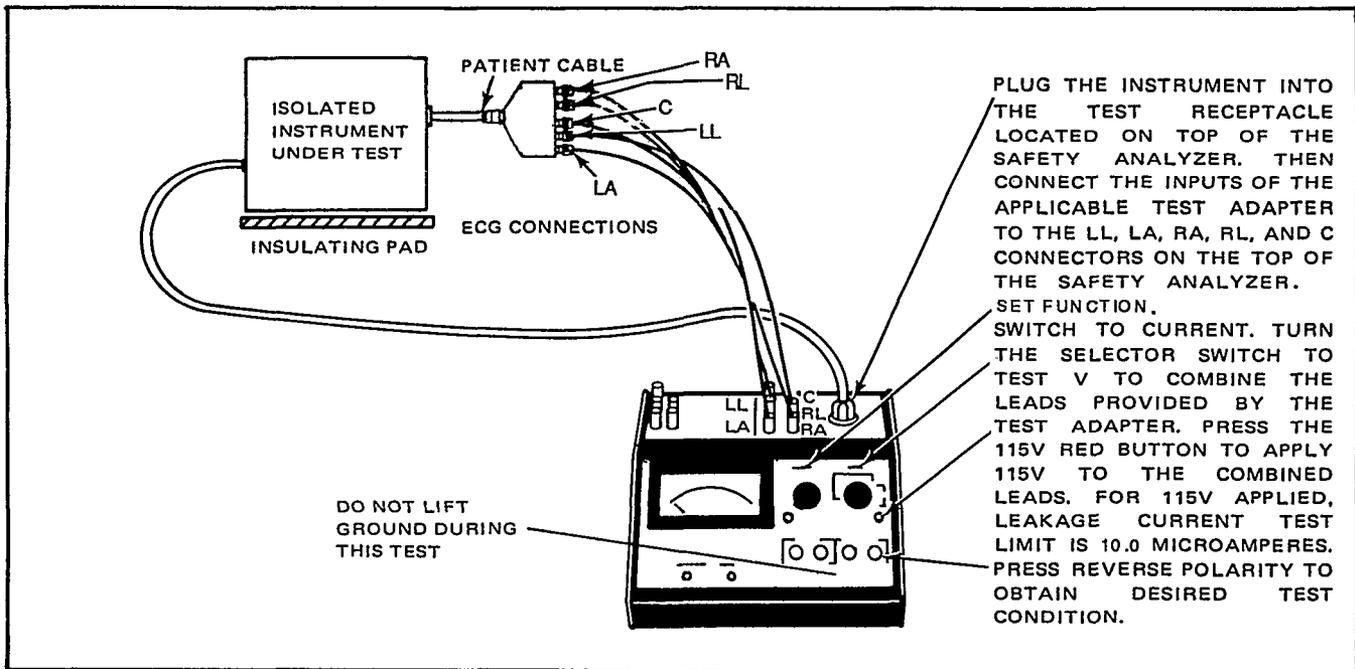

Figure 3-5. Patient Lead Leakage Current (Sink Current) with 115V Applied Test Setup.
1. Connect the test equipment as shown in Figure 3-5.
2. Perform the test as instructed in figure 3-5.